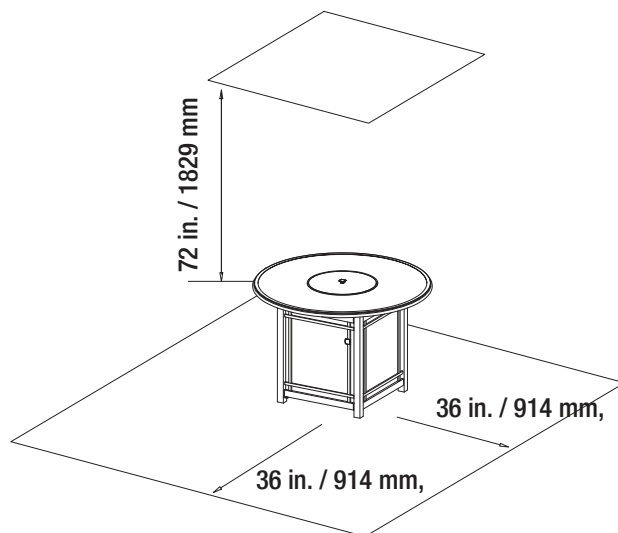

Fig. 1
- Minimum clearance from combustible constructions: rear and side: 36 in. / 914 mm, top 72 in. / 1829 mm. (Fig.1)